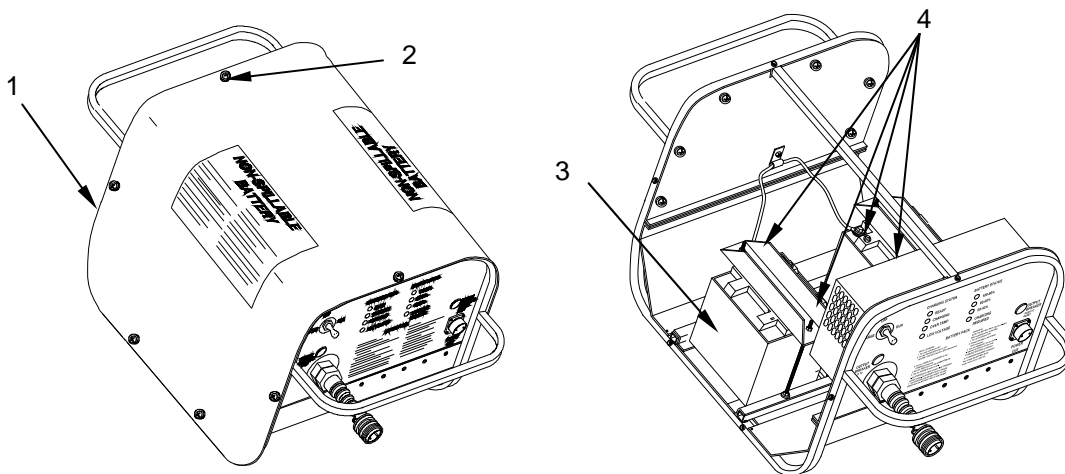

Figure 2. Inspect the Batteries.
1. Remove the battery pack outer cover (Figure 2, Item 1) by removing the cover retaining screws (Figure 2, Item 2) with a suitable screwdriver. Retain the screws for reassembly.
2. Inspect the outer casing of the lead acid batteries (Figure 2, Item 3) inside the battery pack (Figure 2, Item 1) for any damage or signs that the batteries could be leaking.
3. Visually inspect the four battery terminals (Figure 2, Item 4) for corrosion.
5. Install the outer cover (Figure 2, Item 2) and secure with the cover retaining screws (Figure 2, Item 3).